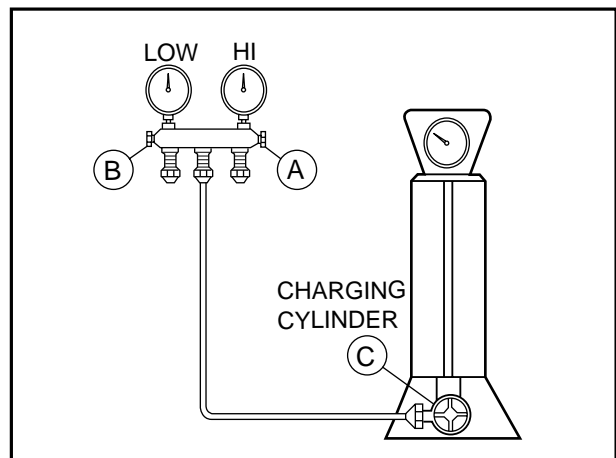

Figure 14B-Charging
- 4) Remove the hose from the vacuum pump and place it on the charging cylinder. See figure 14B.
- 2) Connect the charging cylinder as shown in figure 14B.